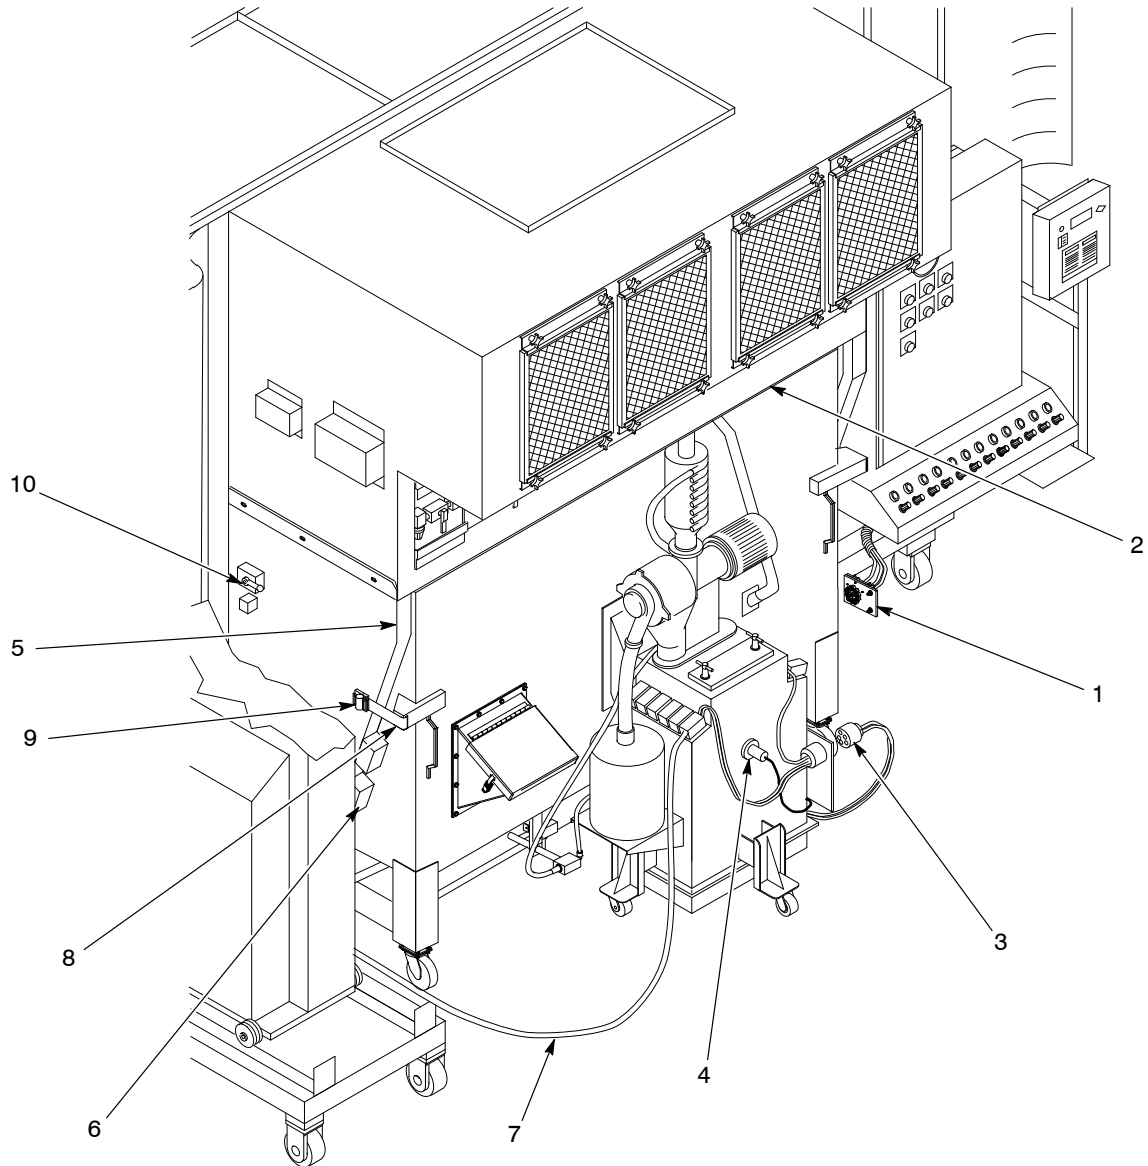

Figure 3-3 Removing the Color Module and Feed Hopper (2003 and Later System Shown)
3. See Figure 3-3. Remove the color module quick-disconnect plates (1). Uncouple the 10-tube connectors (3) from the feed hopper receptacles.
4. If you are using a rotary sieve, disconnect the sieve electrical cables from the junction boxes (6) on the fan section supports (5).
5. Rotate the level sensor (4) to unlock it from its mounting in the side of the feed hopper. Remove the sensor and store it on one of the fan supports.
6. Disconnect the feed hoses (7) from the powder pumps.
8. Use the seal control valve (10) to release the air pressure from the pneumatic seal (2). Make sure the seal deflates.
9. Release the clamping-strap ratchets (9) on the sides of the fan section. Disconnect the clamping straps (8) from the color module.